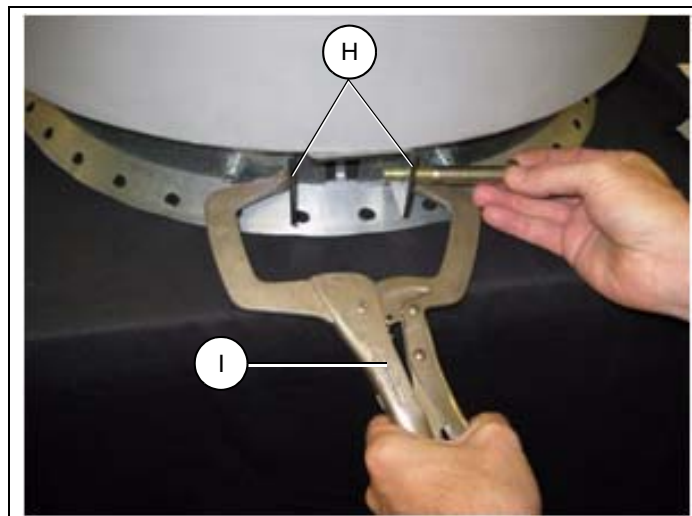
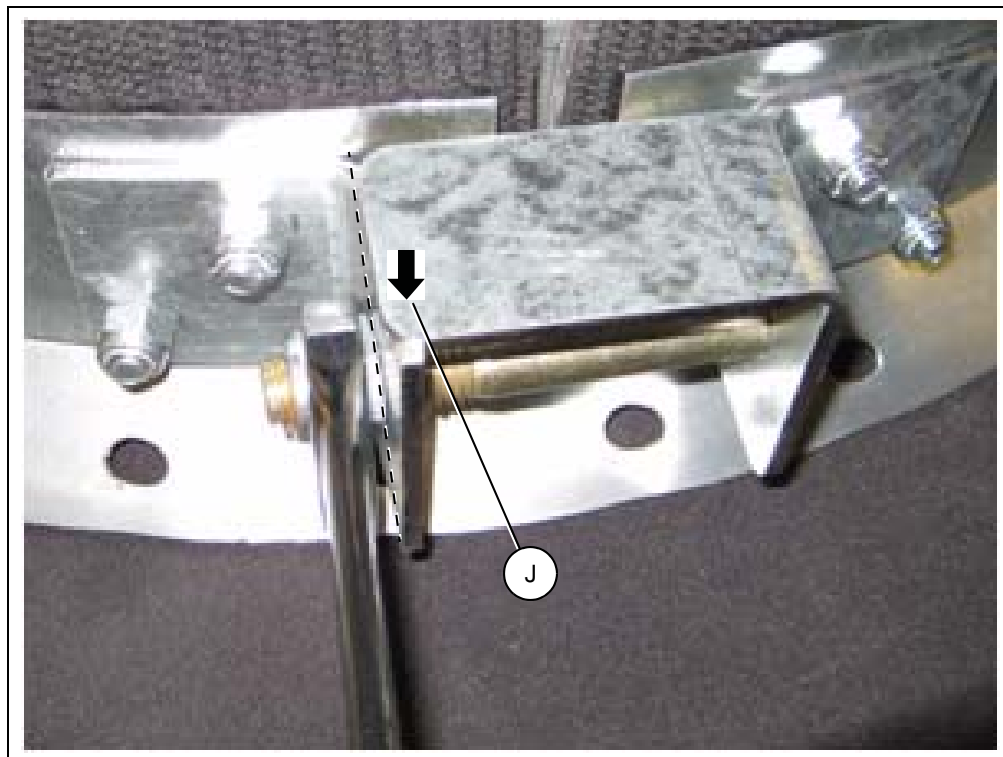

Figure 10C Mount Lid to Peak Ring
Figure 10E *Tighten Bolts Until Flush with Bracket*
2. Place the lid assembly over the existing peak ring collar and rotate lid assembly such that the lever arm and spring hinge line up with the roof eave bracket, See Figure 10A on Page 49. Use a clamp to pull the mounting brackets together. Slide the 3/8" carriage bolt supplied through the mounting bracket and loosely fasten with nut, See Figure 10C. Remove clamp and tighten the bolt with 9/16" ratchet, ensuring that the vertical flange tightens past the left edge of the top, horizontal flange, See Figure 10E on Page 51.